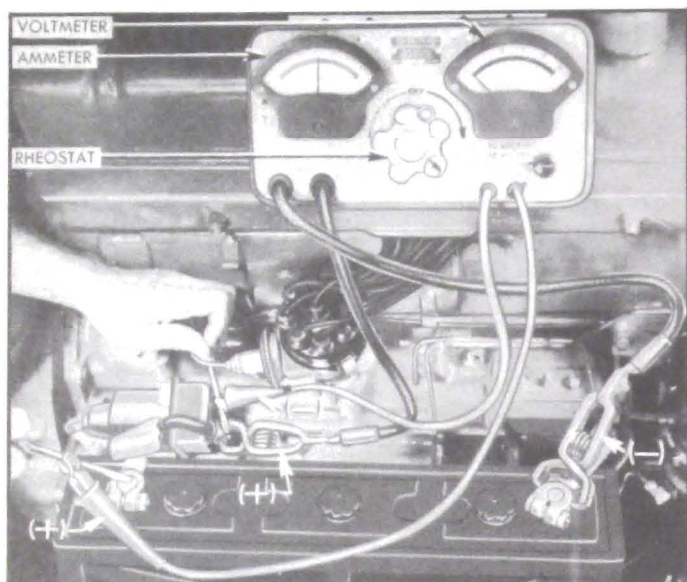

Figure 10-7—Testing Battery Cables and Connections with Voltmeter, Ammeter, and Rheostat
2. Connect ammeter positive (+) lead to battery terminal stud on cranking motor solenoid switch. Connect ammeter negative (–) lead to one side of rheostat and connect other side of rheostat to ground on engine, preferably at point where battery ground strap is attached. In the instrument shown in figure 10-7 the ammeter and rheostat are connected in series inside the case.
3. Connect voltmeter negative (–) lead to battery terminal stud on solenoid switch. Use a prod with voltmeter lead, if necessary, to insure direct contact with the terminal stud. *Do not connect to the ammeter lead clip.* Attach a prod to voltmeter positive (+) lead and apply the prod to *center* of battery positive (+) post (fig. 10-7). Make sure that clips of voltmeter